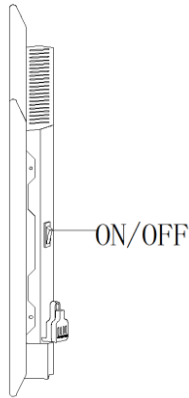

Fig.7
7. **Drill two screws into the upper wall support .(Fig.7)**
Once the heater has been correctly placed and plugged into the socket, please press "Main Power switch" to " I " position to have voltage in it. **(Fig 7)**